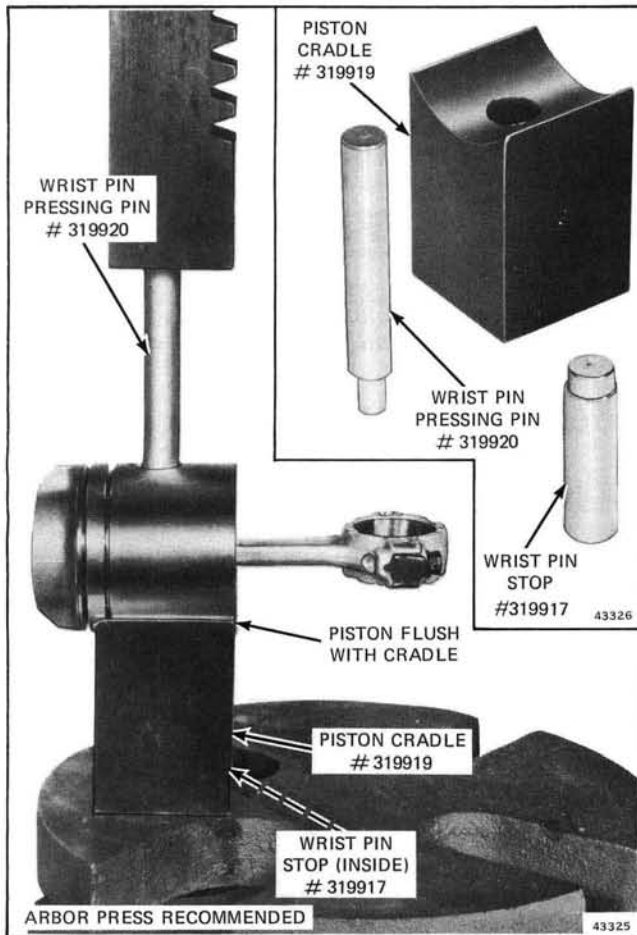

Figure 5-32. Installing Wrist Pin
b. Using a piston cradle (Special Tool #319919), a wrist pin stop (Special Tool #319917), and wrist pin pressing pin (Special Tool #319920), press wrist pin through "L" side of piston until seated. See Figure 5-32. Wrist pin stop will locate wrist pin between retaining ring grooves.